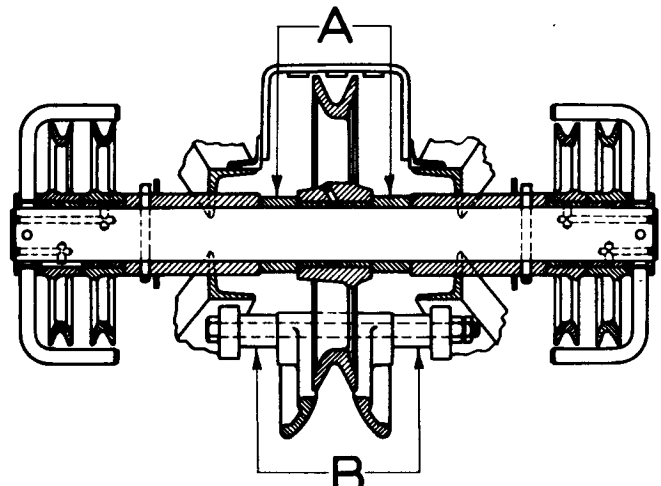

FIG. 8
4. Reassemble the boom point shaft as shown in Fig. 8 with spacers "A" on either side of the single sheave. Assemble the two outer rope guides with spacers "B" inserted as shown.